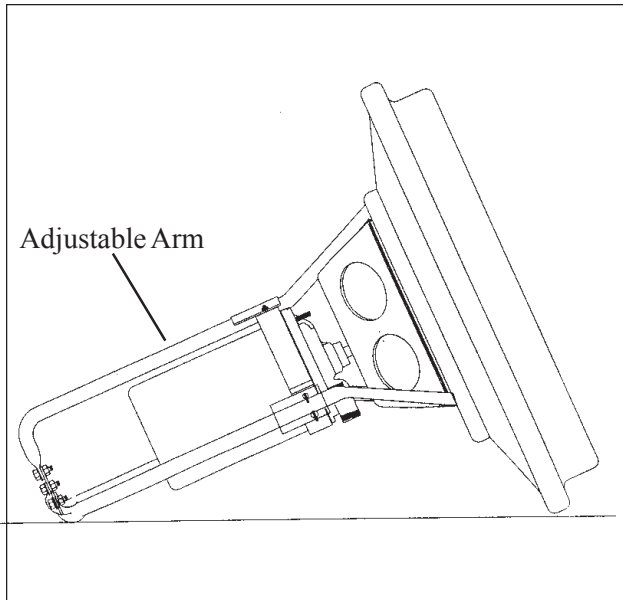

Figure 9
C. Aligning impeller in throat assembly - see Figure 9&10
1. Turn the unit on it's side so that the adjustable arm is up. See Figure 9. Place the impeller on the shaft and rotate the impeller one complete turn. Verify equal distance between the end of the impeller and the inner wall of the throat throughout rotation. See Figure 10.